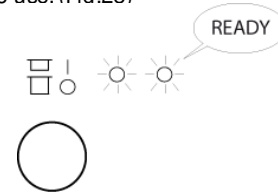

Fig.28
- After water heating process is finished and the temperature is reached, GREEN indicator light is visualized on position "E" machine READY to use. (Fig.28)